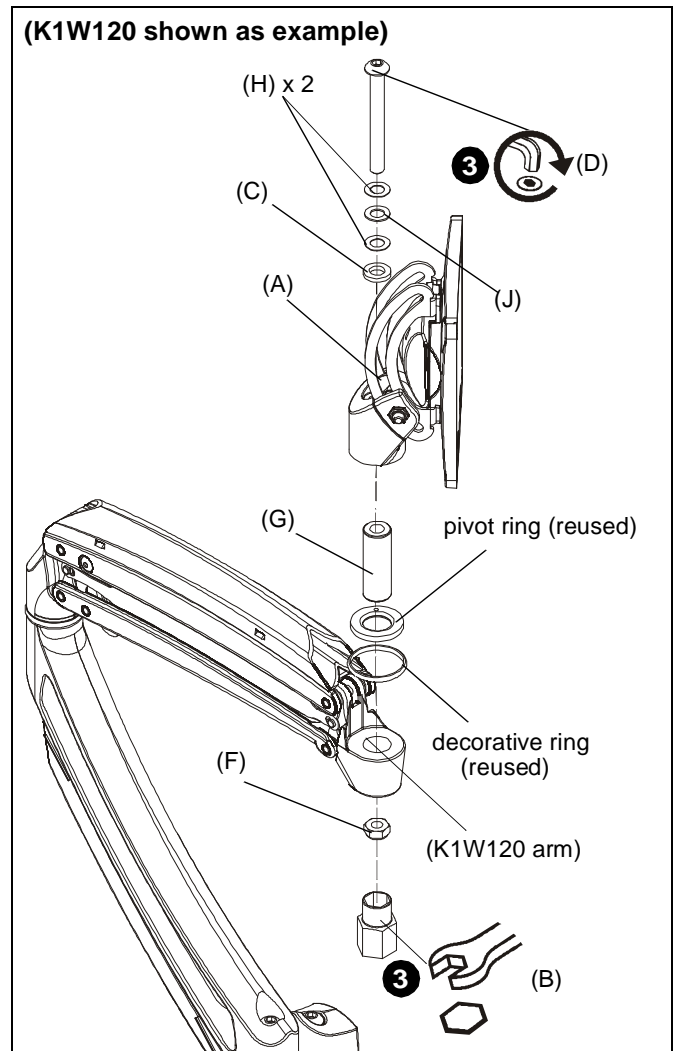

Figure 2
3. Use 5/16-18 x 2 3/4" button head cap screw (D), two thin steel washers (H), plastic washer (J), thick spacer (C), pivot pin (G), removed pivot ring, removed decorative ring, 5/16-18" lock nut (F) and socket bit (B) to secure replacement head assembly (A) to Kontour mount. (See Figure 2)